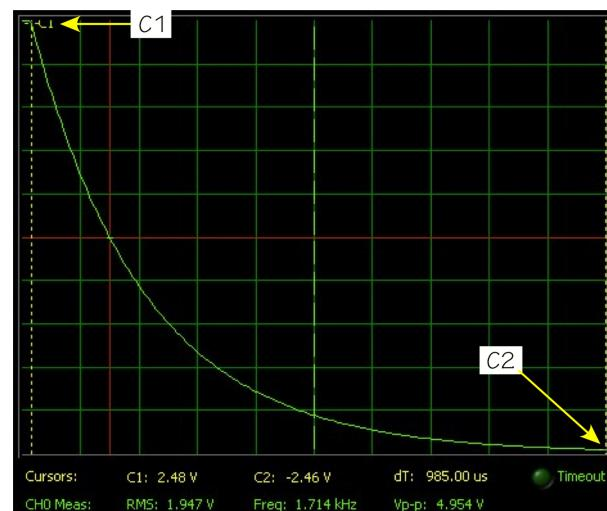

Figure 7: Cursor Initial Positions
8. Postion C1 at the start of the downward slope of the exponential. Figure 7 shows the cursors properly positioned.